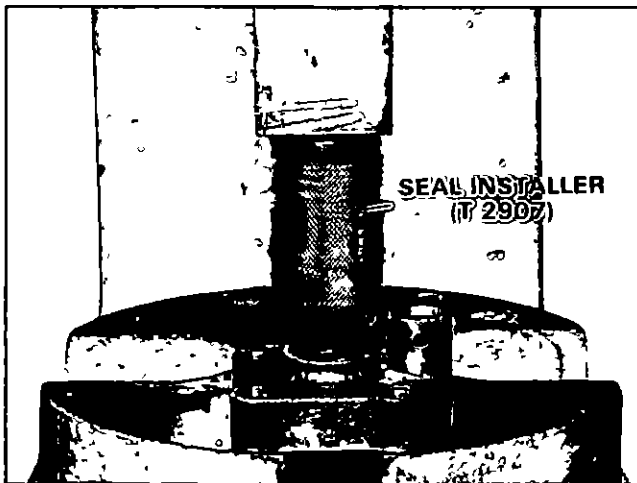

Figure 21. Installing Driveshaft Seal.
- B Place new seal, spring end up, on top of seal bore. Use Special Tool No T 2907 seal installer to press seal in. Figure 21